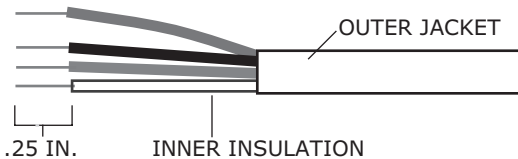

Fig. 34 — Rnet Cable Wire
- Strip about 1/4 in. of the inner insulation from each wire. See Fig. 34.